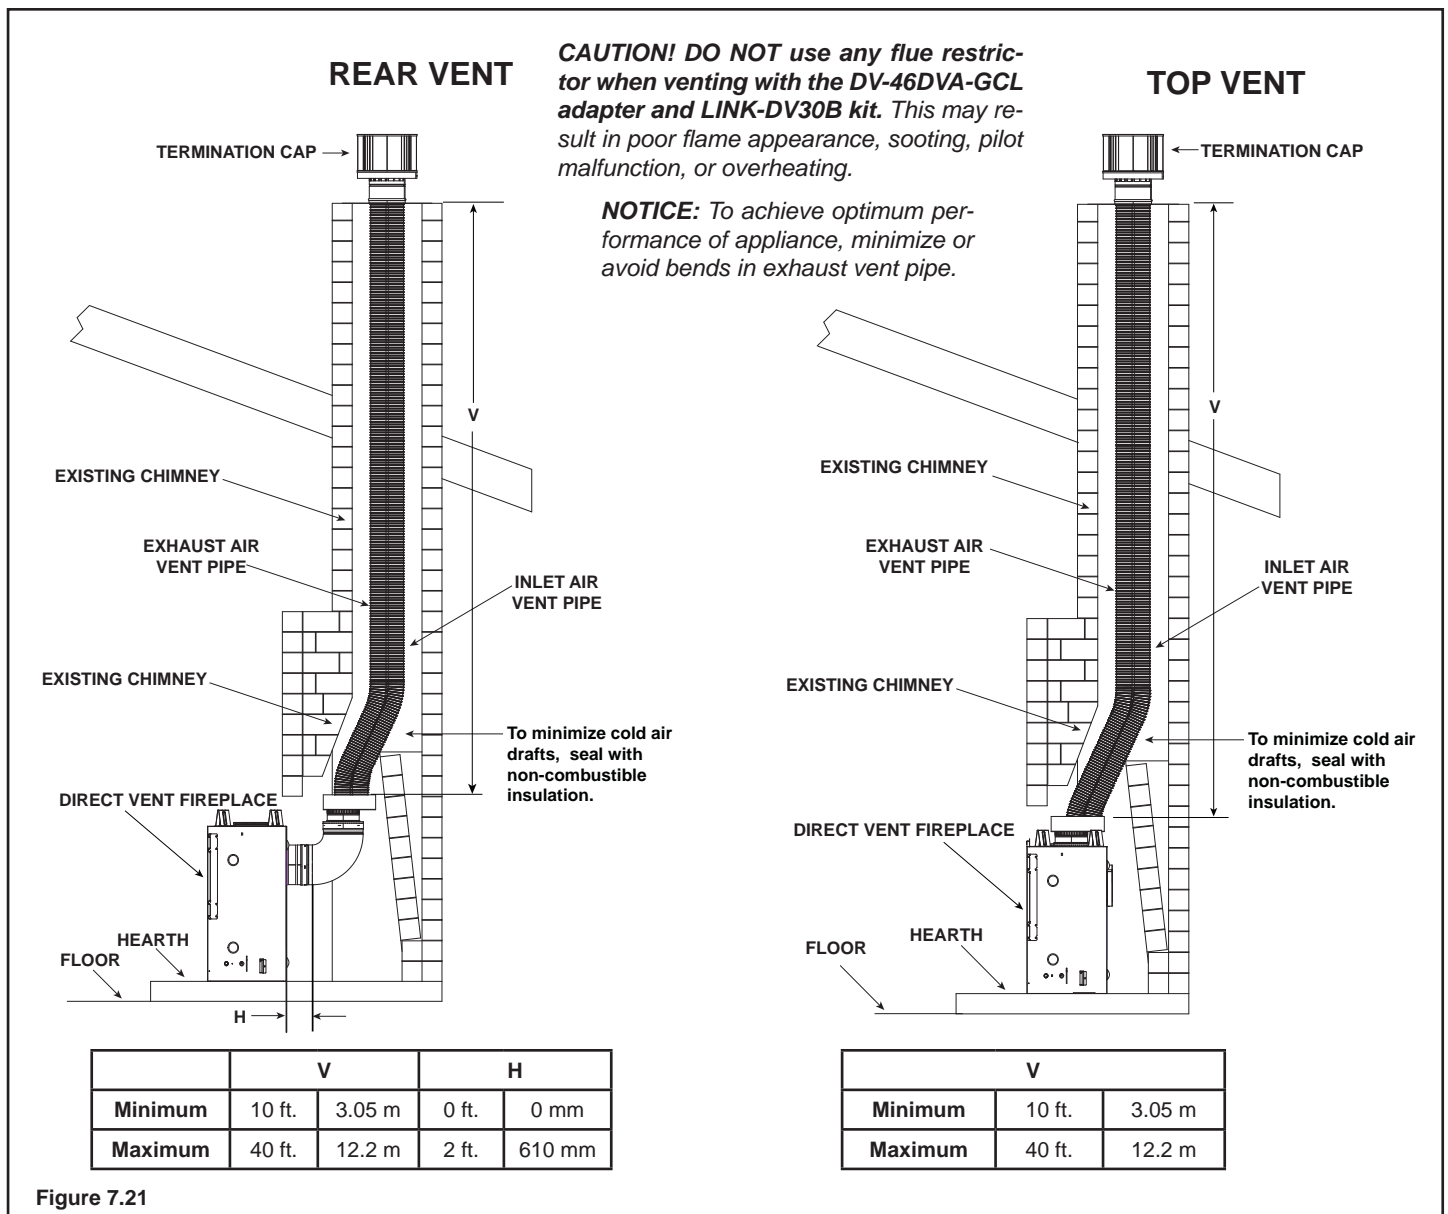

Figure 7.21
- Remove top seal cap and insulation if equipped. See Section 14, "Appliance Setup." Attach the DV-46DVA-GCL adapter to the appliance starting collar with 3-1/2 in. self-tapping screws. See Figure 7.21.
- Remove the rear seal cap and insulation if equipped. Connect the DVP-2SL adapter to the vertically positioned elbow. Follow installation instructions included with DVP-2SL kit. Secure DV-46DVA-GCL adapter to DVP-2SL with 3-1/2 in. self-tapping screws. See Figure 7.21.